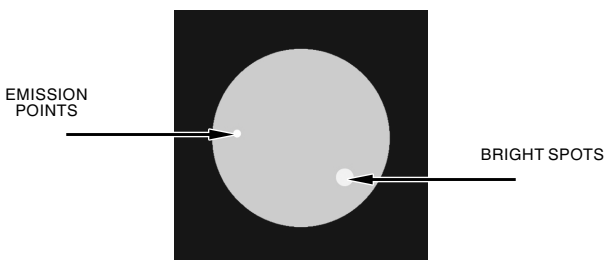

FIGURE 2.5. BRIGHT SPOTS AND EMISSION POINTS
(1) Bright Spots. A bright spot is a small, nonuniform, bright area that may flicker or appear constant (Figure 2.5.). Not all bright spots make the NVG rejectable. Cup your hand over the objective lens to block out all light. If the bright spot remains, return the NVG to the maintainer. Bright spots usually go away when the light is blocked out. Make sure any bright spot is not simply a bright area in the (2) Emission Points.
(2) Emission Points. A steady or fluctuating pinpoint of bright light in the image area that does not go away when all light is blocked from the objective lens of the goggles (Figure 2.5.). The position of an emission point within the image area does not move.